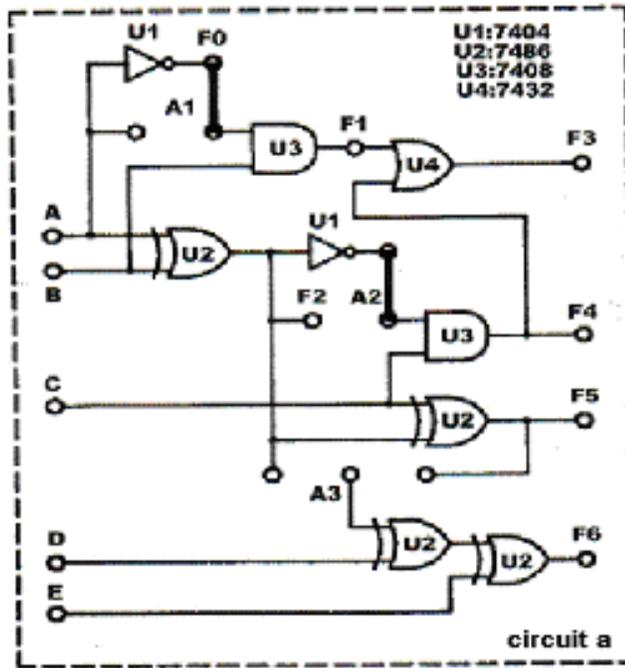

Fig. 2-51 Half-adder/Full-adder
1. Insert connection clips according to Fig. 2-51.